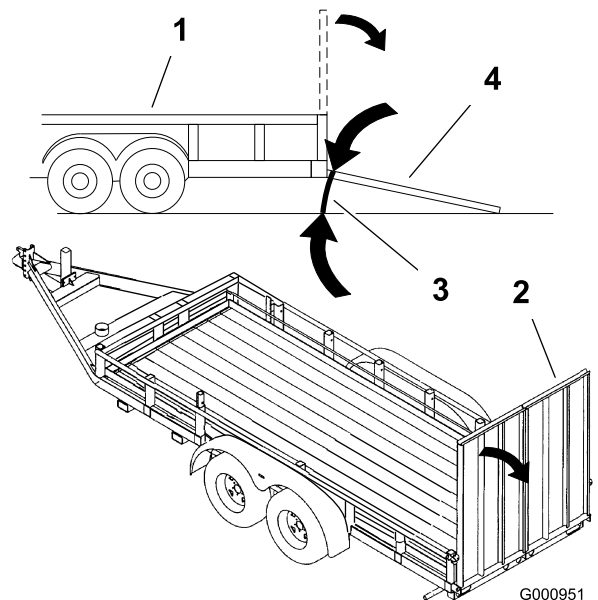

Figure 28
- Use 1 full-width ramp that is wide enough to extend beyond the rear tires instead of individual ramps for each side of the machine (Figure 28). The platform, when down and locked into position, must extend back between the rear wheels, and serves as a stop for tipping backward. Having a full-width ramp provides a surface for the platform to contact if the machine starts to tip backward. With the platform up, a full-width ramp provides a surface to walk on behind the machine.
- The ramp should be long enough so that the angles do not exceed 15 degrees (Figure 28). A steeper angle may cause tine components to get caught, as the machine moves from ramp to trailer or truck. A steeper angle may also cause the machine to tip backward. If loading on or near a slope, position the trailer or truck so it is on the down side of the slope and the ramp extends up the slope. This minimizes the ramp angle. The trailer or truck should be as level as possible.